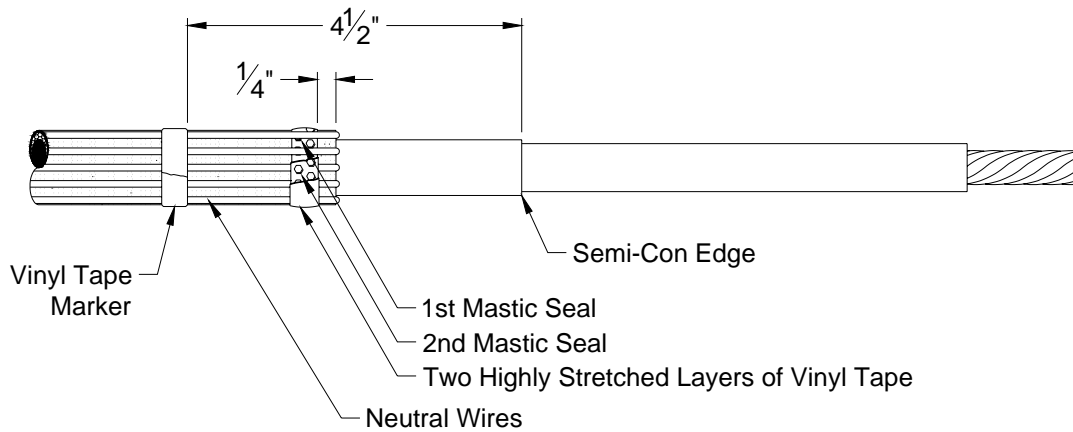

Figure 3 – Install Mastic and Marker Tape
- 2.7 Compress neutral wires into mastic by over-wrapping seal strips with two layers of vinyl tape. **Be sure to cover all exposed mastic.** See Figure 3.